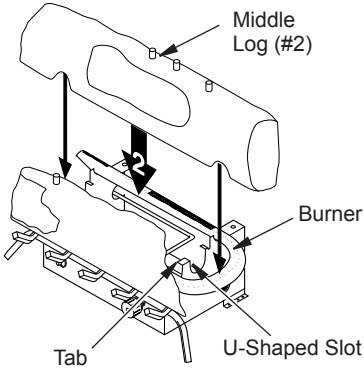

Figure 20 - Installing Middle Log #2 (CCL3924PTA/NTA Shown)
2. Place base of middle log (#2) in U-shaped slots of grate base. Cutout on right of middle log should fit over burner (see Figure 20, page 17). Make sure front of middle log is resting on tabs of grate base.